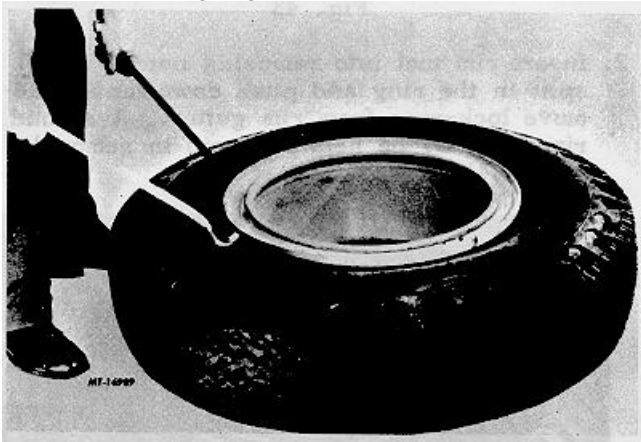

Fig. 37
1. Deflate tire or both tires if working on duals completely by removing the valve core, before removing tire and rim assembly from truck. Remove tire from truck and place on floor with the side-ring up. Pry bead loose from side-ring by inserting curved end of rim tool and hooked-end of rim tool between side-ring and side-wall of tire. Then apply downward pressure on rim tools. Continue to pry around tire until bead is completely free from side-ring (Fig. 37).